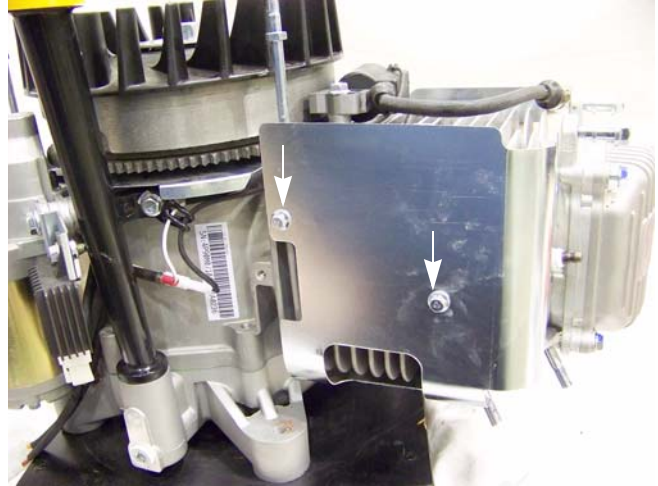

Figure 9.3
6. Remove the two screws, indicated by the arrows in Figure 9.3, that secure the baffle to the cylinder using an 8 mm wrench.